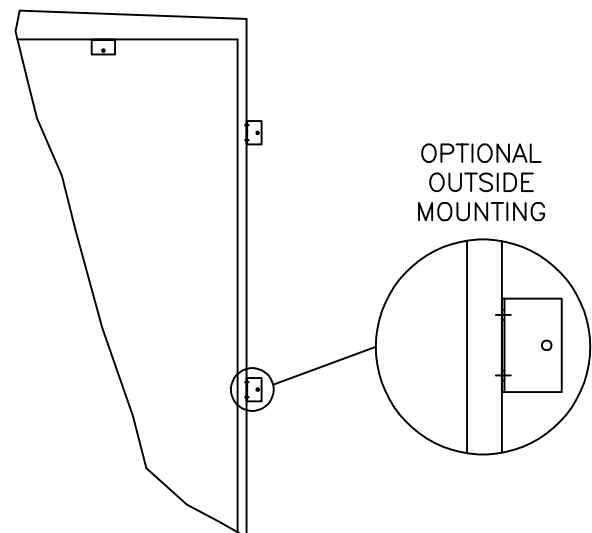

FIG. 2
- If there is not enough space, install the Mounting Brackets on the outside of the Frames (**Figure 2**).